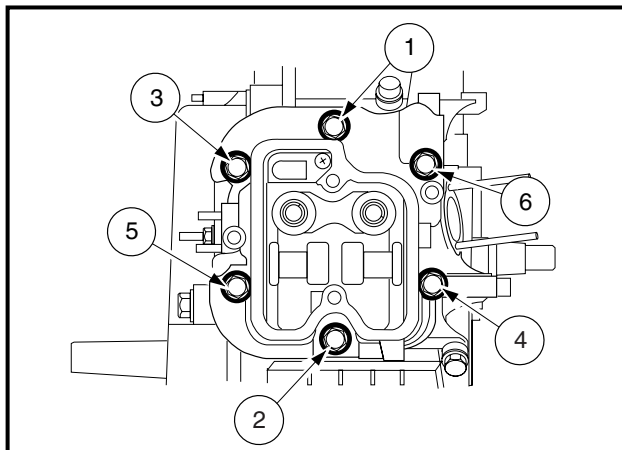

Figure 2-33 Bolt Torque Sequence
6. Use a torque wrench to tighten the six bolts in the sequence shown (Figure 2-33, Page 2-17).